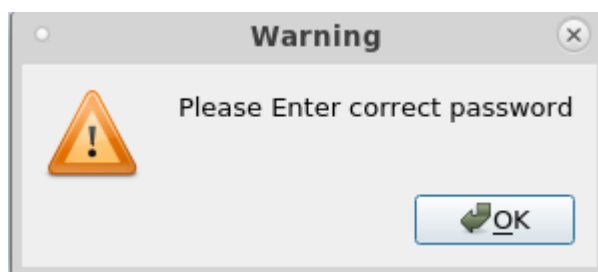

Figure 42: Forgotten PIN Error Message
- Figure 42: Forgotten PIN Error Message shows the notification window that will appear when incorrect pin code is entered. User account will be locked when incorrect password is entered more than 5 times. If a User forgets their PIN, please contact your Plants Legendary™ Administrator.